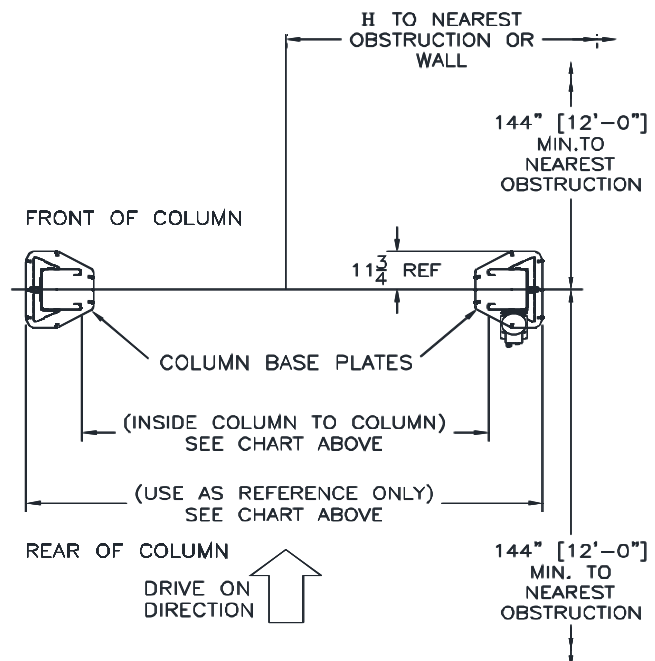

Fig. 1b - Service Bay Layout
- 5) Layout the service bay according to the architect's plans or owner's instructions (**see Fig. 1b**). **Failure to install in this orientation can result in personal and property damage.** Be certain that the proper conditions exist, see page 3.